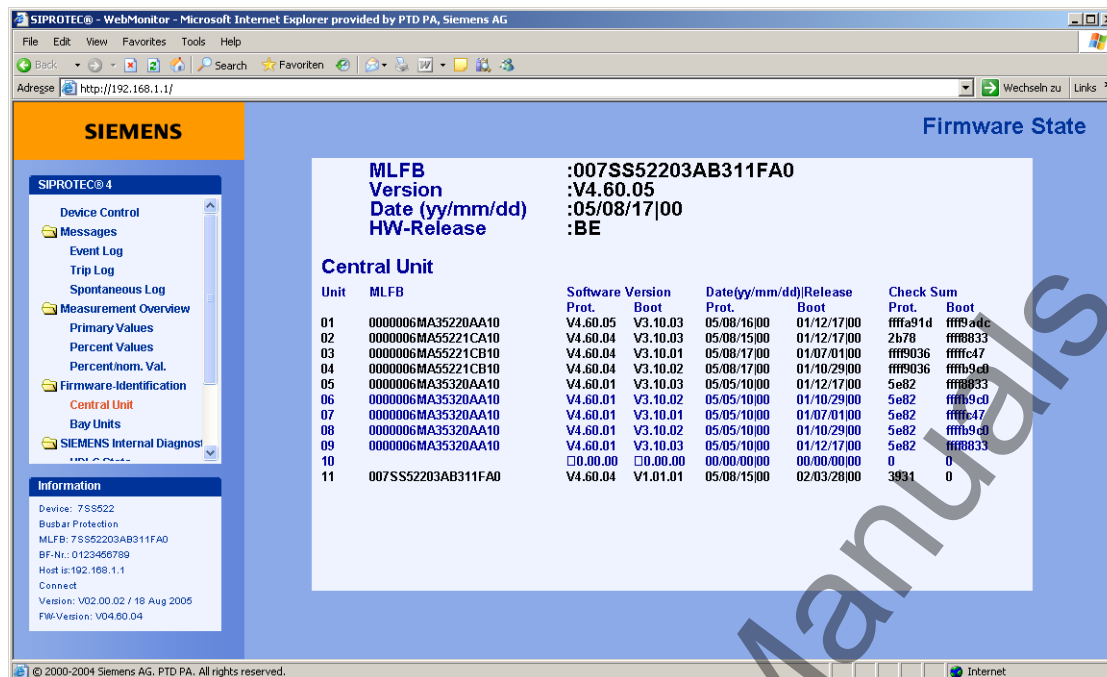
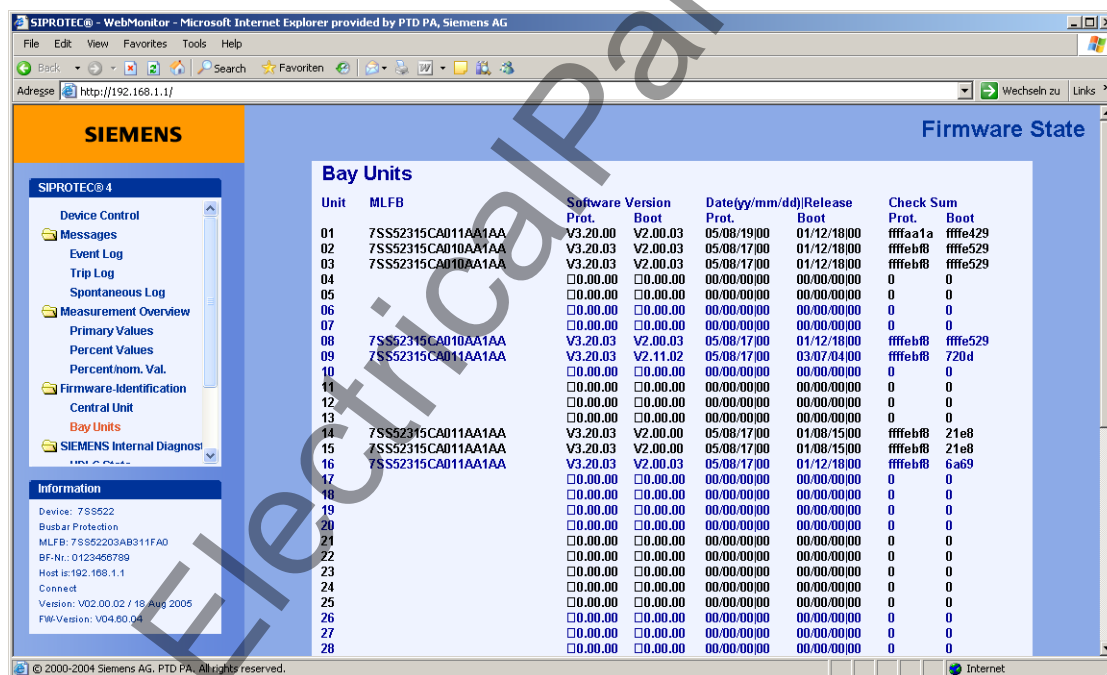

Figure 7-6 Example for the display of the firmware version for the modules of the central unit
Figure 7-7 Example for the display of the firmware version for the modules of the bay units
- call the firmware status of central units (Figure 7-6, page 259) and bay units (Figure 7-7, page 259),